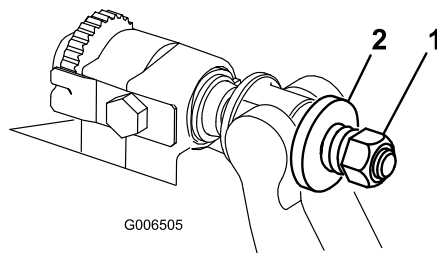

Figure 28
3. Tighten spring tension nut until spring is collapsed, then back off 1/2 turn (Figure 28).